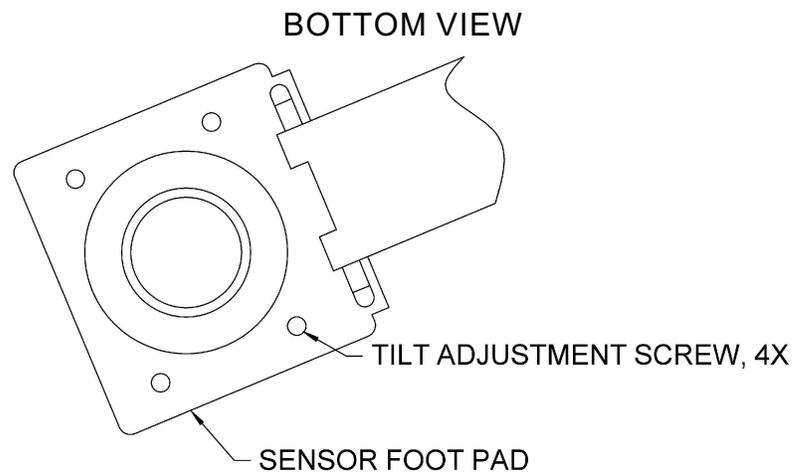

FIGURE 3.2
3.0.5 **COCKED CAP DETECTION.** The gimbal mount of the sense probe allows the Sensor Foot Pad to tilt as much as 7° off of horizontal to accommodate eccentric container tops. This tilt of the Sensor Foot Pad may be great enough to accommodate the tilt of a cocked cap. The amount of tilt allowed can be reduced by adjusting the Tilt Limit Screws in the sensor housing (Figure 3.2). As supplied, these screws are adjusted to not interfere with the Sensor Foot Pad tilt.